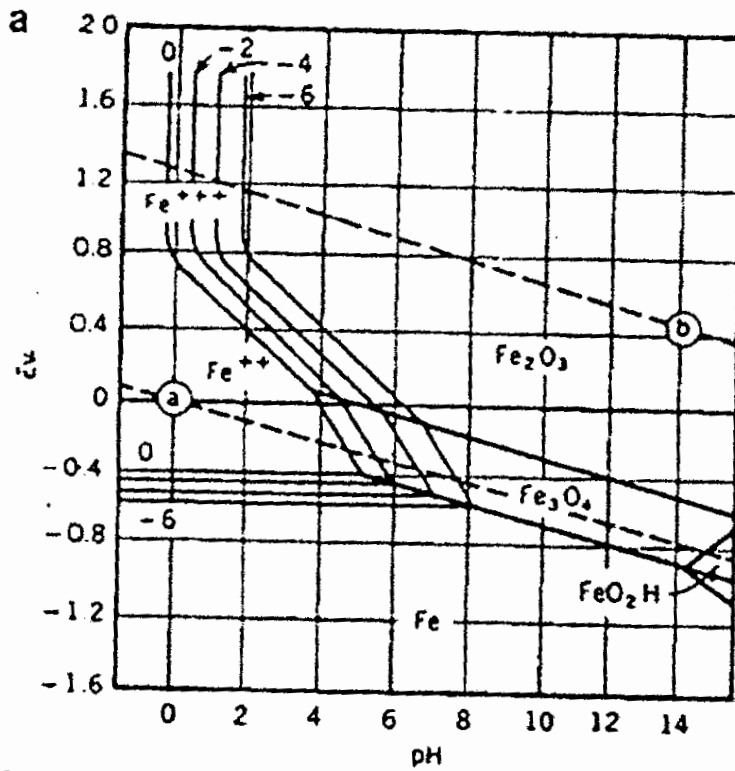

Fig Q2C
- 2E. Referring to the pE – pH diagram of iron shown in Figure Q2C below, answer the following questions, sketch on the figure, the areas of corrosion, immunity and passivation.